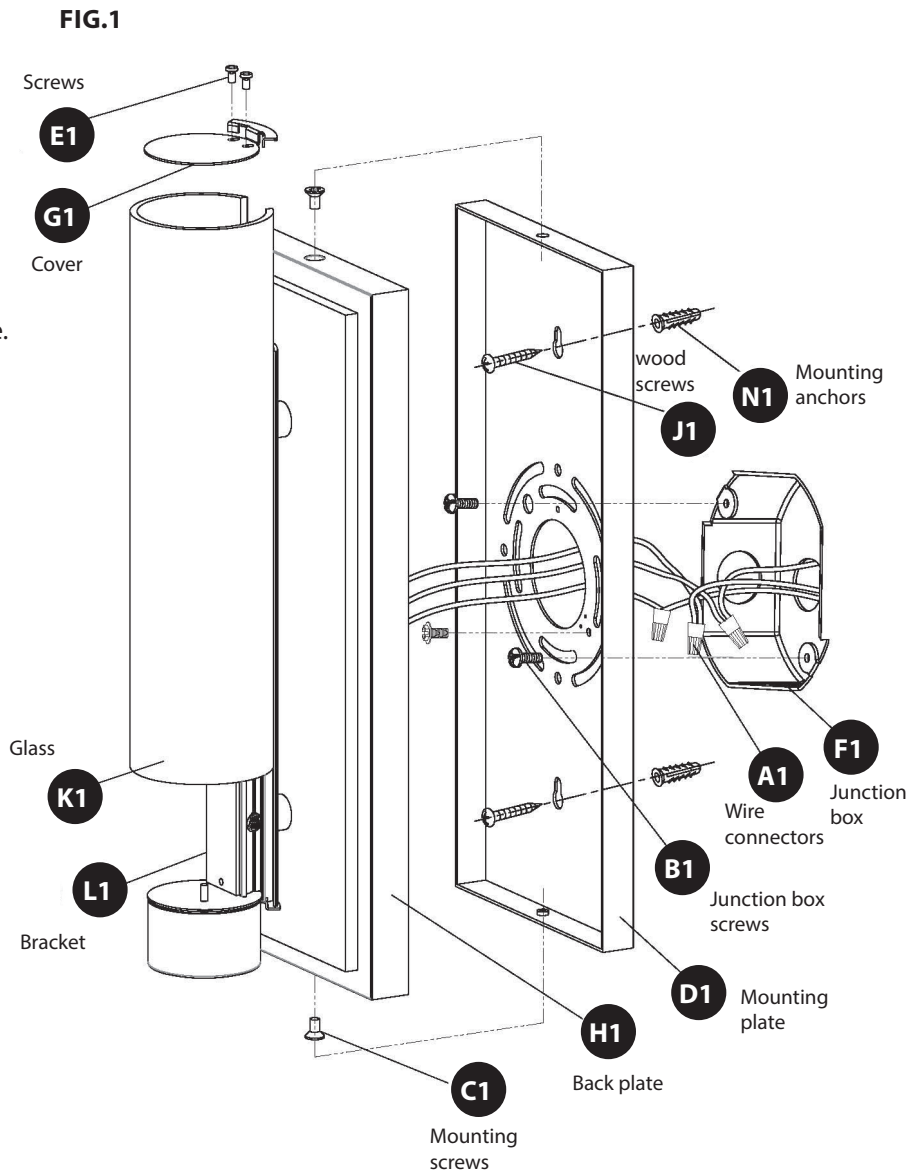

FIG. 2
7. Connect the fixture wires to junction box wires as shown in Fig. 2, making sure that all wire connectors (A1) are secured. Fixture and junction box ground wires should be connected to mounting plate using green screw provided. After wires are connected, tuck them carefully inside the junction box.